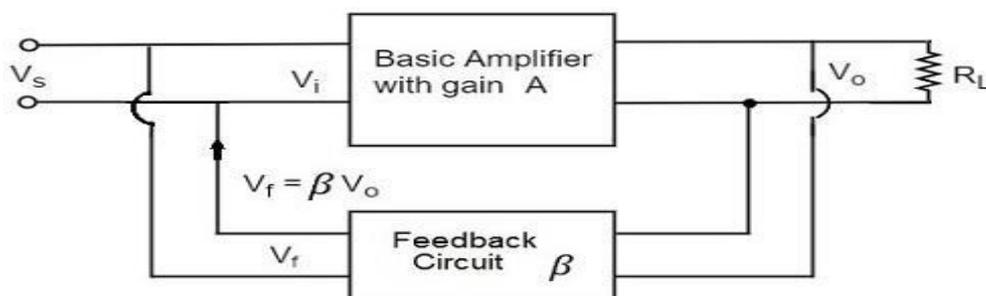

Fig.3. voltage shunt feedback circuit
- The below figure.3 shows the block diagram of voltage shunt feedback, by which it is evident that the feedback circuit is placed in shunt with the output and also with the input.